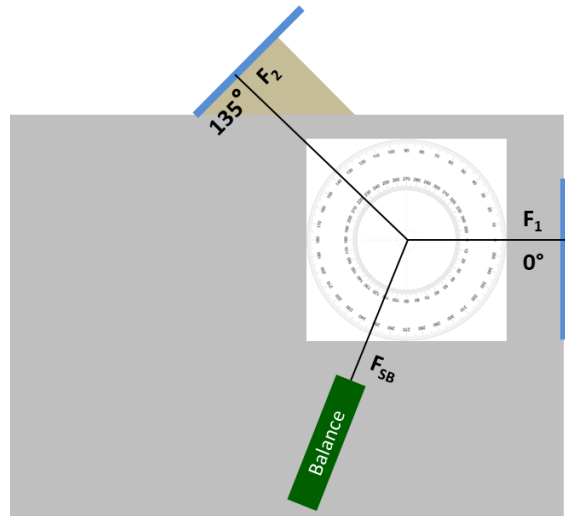

Fig. 19: Align the printed protractor under the threads so that the center is at the intersection of the threads, F_1 at exactly 0° , and F_2 at exactly 135° .
12. Rotate the protractor until F_1 lines up at 0° and F_2 lines up at 135° (see Fig. 19). If the thread is slightly off from the desired angle, slide it over so that it crosses exactly at 0° or 135° .